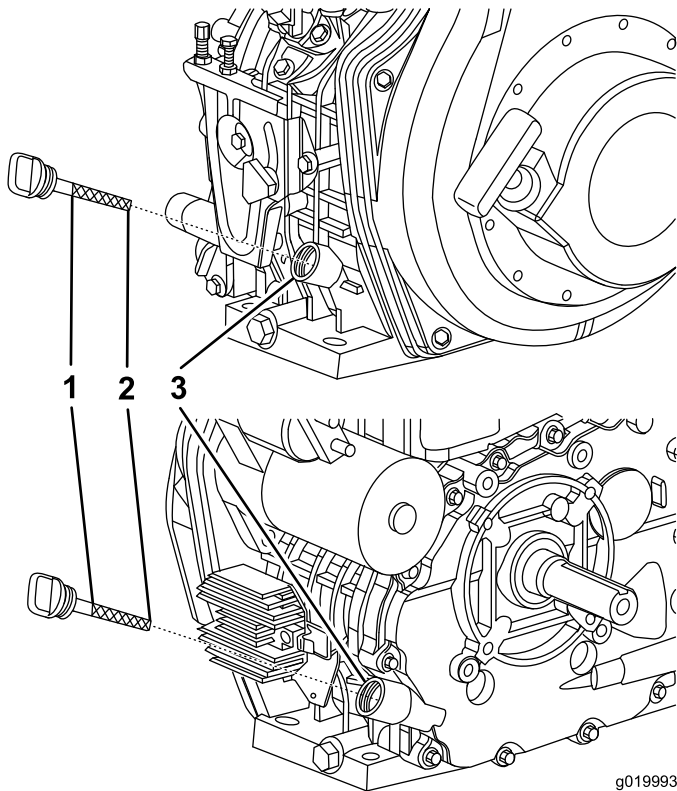

Figure 36
1. Remove the dipstick (Figure 36) and slowly pour oil into the fill hole until the oil is between the upper and lower limit on the dipstick.